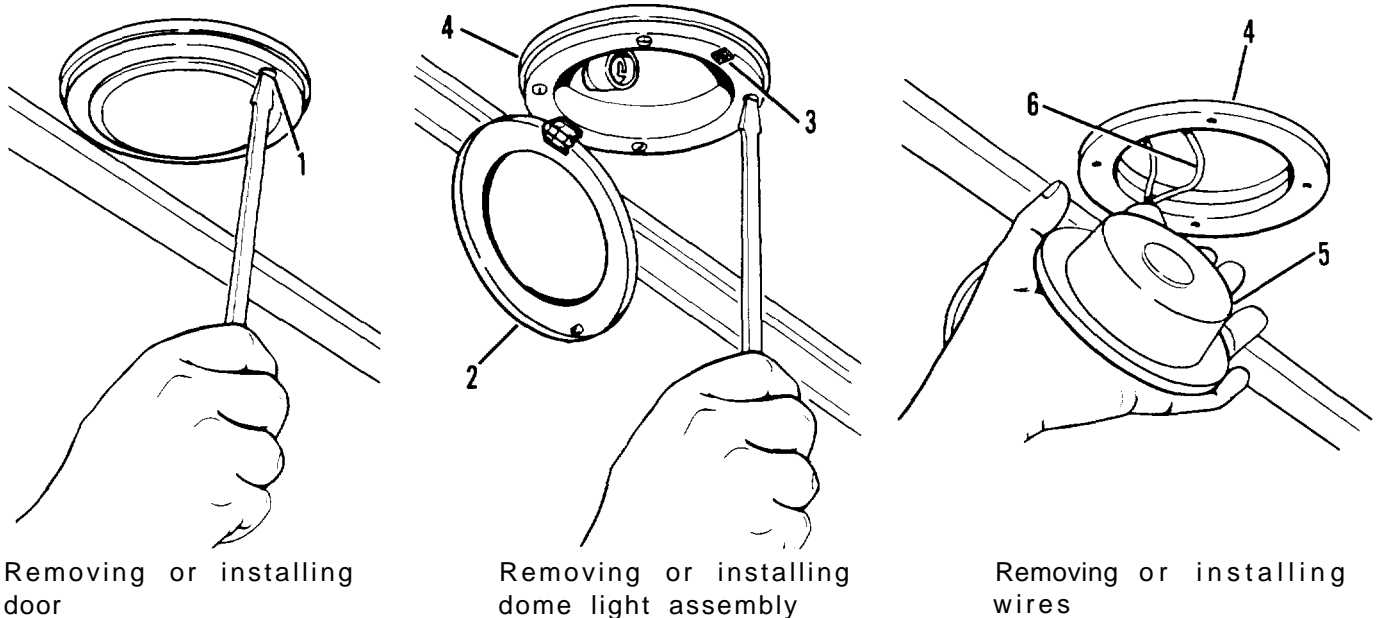

Figure 4-9. 24 volt dome light assembly replacement
- (1) Loosen captive screw (1, figure 4-9) securing door (2). Swing door (2) down.
- (2) To remove lamp, push in and turn counterclockwise.
- (3) Remove four screws (3) securing light assembly to shim (4).
- (4) Remove light assembly (5) from shim (4). Disconnect positive wire (6). Ground wire was secured by screw removed in step 3.
- (1) Connect positive wire (6, figure 4-9).
- (2) Position light assembly (5) on shim (4). Secure ground wire with screw (3). Secure light assembly with three remaining screws (3).
- (3) Install dome light lamp. Swing door (2) up and secure with captive screw (1).